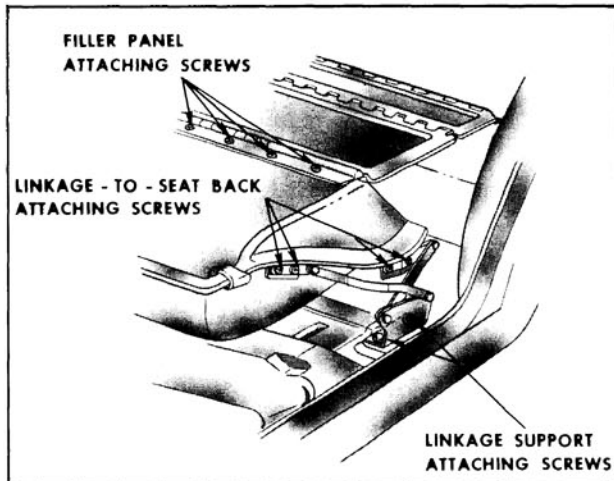

Fig. 16-485 Folding Second Seat Linkage
2. On both sides of seat back, remove screws securing seat back to folding linkage (Fig. 16-485) and remove seat back and panel assembly from body.